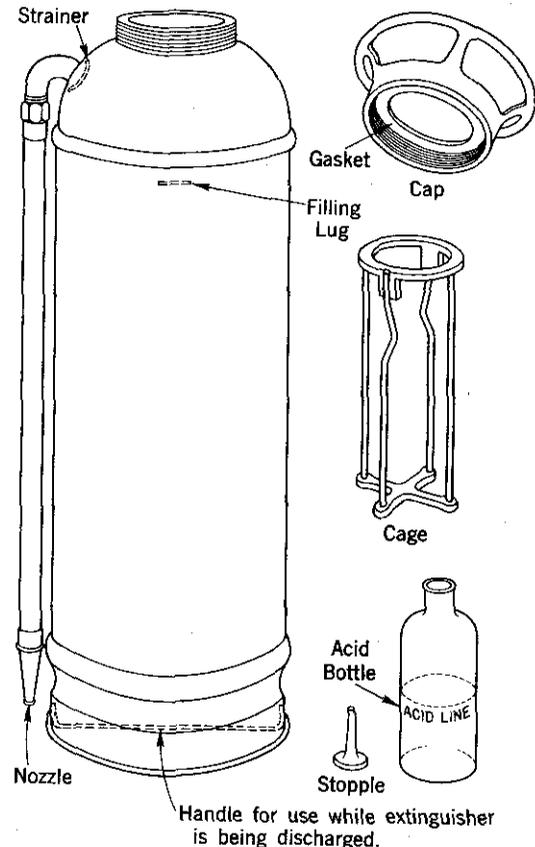

Fig. 1
2.01 The extinguisher consists of a lead lined copper tank of about 2-1/2 gallons capacity, containing water mixed with sodium bicarbonate and a bottle half full of sulphuric acid. The liquid is expelled by inverting the tank causing sulphuric acid to be mixed with the sodium bicarbonate solution resulting in a chemical action generating carbon dioxide gas, the pressure of which forces the liquid out of the hose with sufficient force to throw an effective stream some 30 feet. This discharge commences almost immediately after the tank is inverted and continues for about 50 seconds until all the liquid is gone. The discharge of liquid ceases when the extinguisher is turned right side up, but the gas continues to escape and can not be stopped until the chemical action has been completed. The extinguisher must be recharged before it can be used again. The details of a typical extinguisher are shown by Fig. 1.